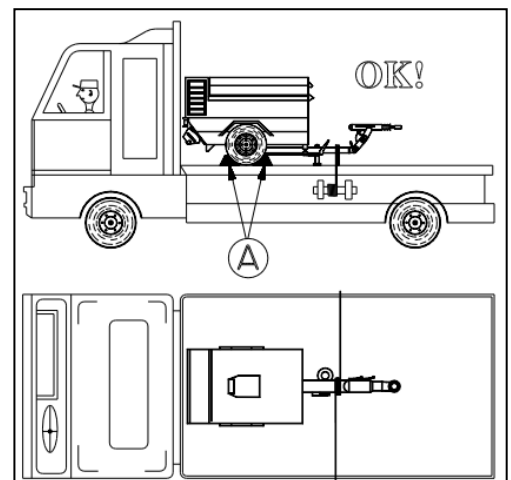

Figure 6.1-1 Instruction for towing in safe conditions
- 2) Locate the towing bar as in Figure 6.1-1.
- 4) Set two wedges (Part A Figure 6.1-1) on each wheel, attaching them to the vehicle floor, in order to prevent the machinery from moving. Utilize wedges of appropriate sizes, both in height and in width.